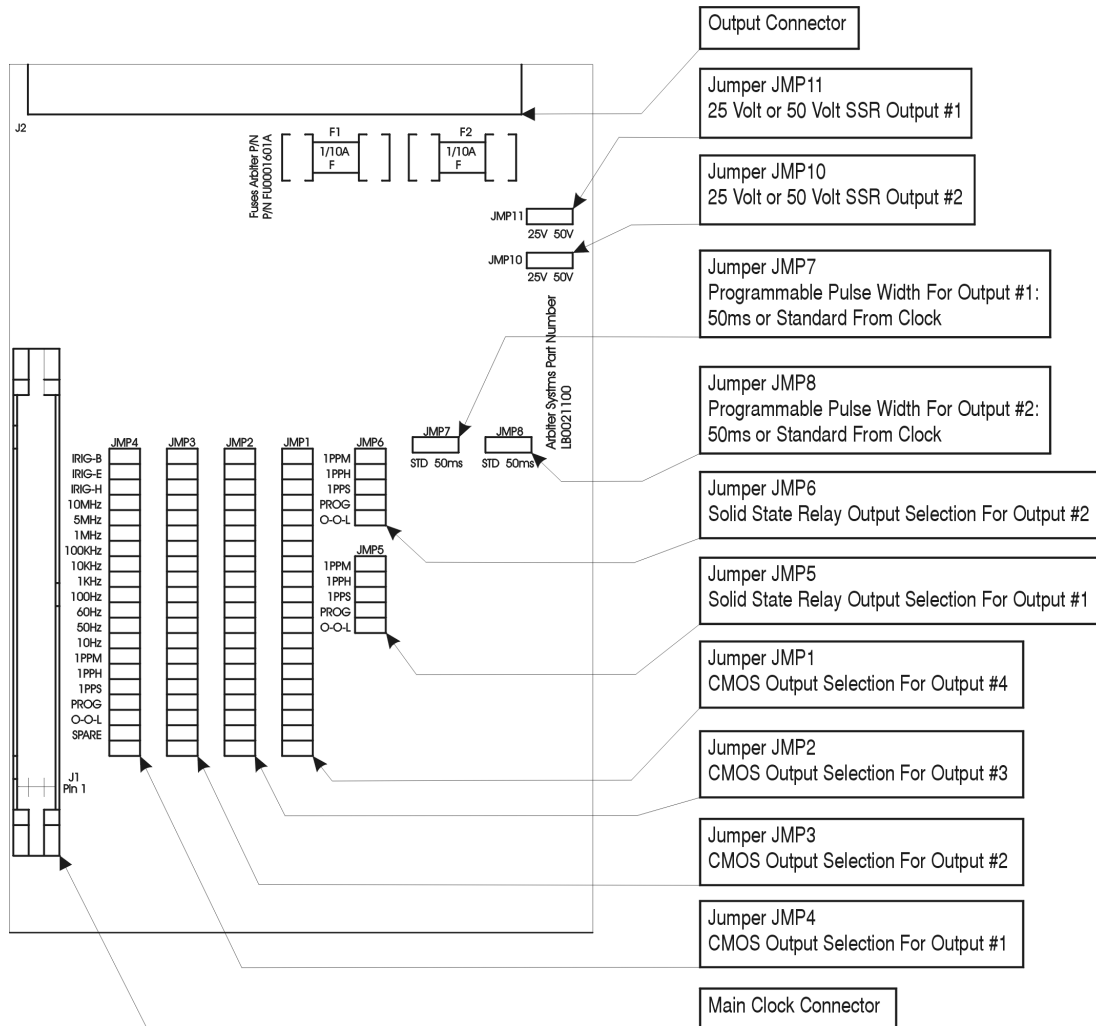

Figure B.6: Option Jumper Locations
Available Output Signals:	Jumper selectable to any of the digital signals available from the clock mainframe plus on board generation of 1 PPS and Programmable Pulse for the 1202 clock models. See Figure B.6 for Jumper location and selections.
3. Locate the appropriate jumper using Figure B.6 and move the jumper to the desired setting.